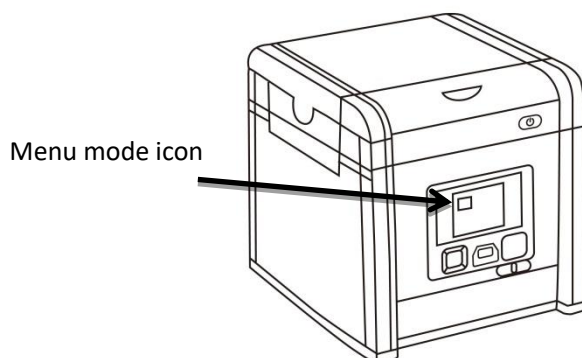

Figure 4
6. The Menu Mode icon will be displayed on the top left side of the display (Figure 4).